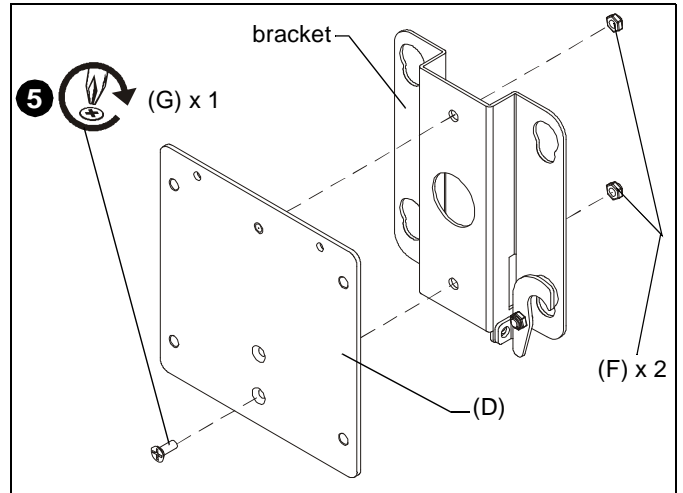

Figure 3
5. Fasten attachment plate (D) to bracket using one 10-24 x 1/2" Phillips undercut machine screw (G) and two 10-24 nylon lock nuts (F). (See Figure 3)